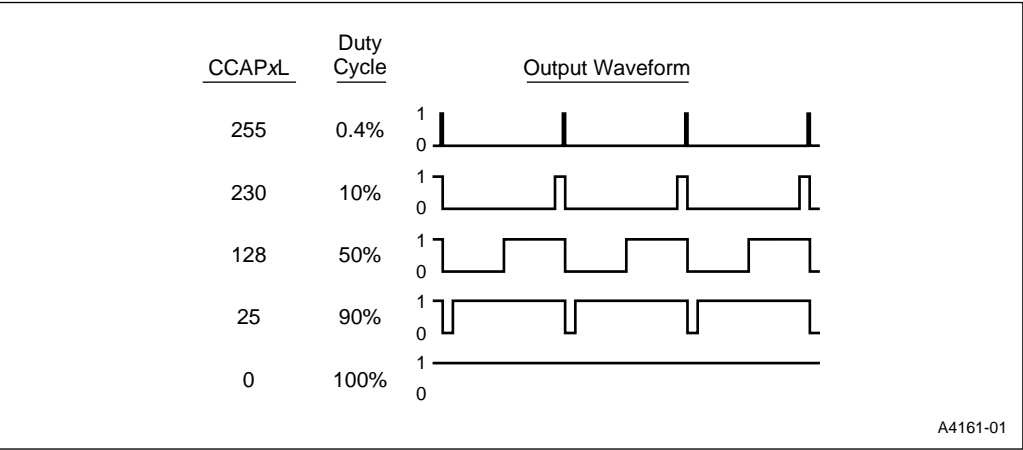

Figure 8-6. PWM Variable Duty Cycle
In this mode the value in the low byte of the PCA timer/counter (CL) is continuously compared with the value in the low byte of the compare/capture register (CCAP_xL). When $CL < CCAP_{xL}$, the output waveform (Figure 8-6) is low. When a match occurs ($CL = CCAP_{xL}$), the output waveform goes high and remains high until CL rolls over from FFH to 00H, ending the period. At roll-over the output returns to a low, the value in CCAP_xH is loaded into CCAP_xL, and a new period begins.
The value in CCAPxL determines the duty cycle of the current period. The value in CCAPxH determines the duty cycle of the following period. Changing the value in CCAPxL over time modulates the pulse width. As depicted in Figure 8-6, the 8-bit value in CCAPxL can vary from 0 (100% duty cycle) to 255 (0.4% duty cycle).